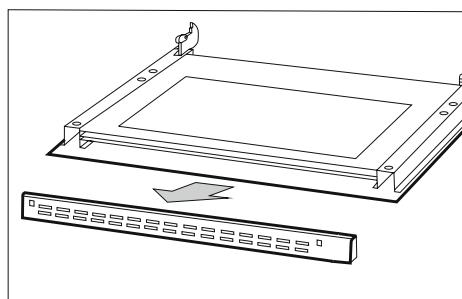

Fig. 7
1. Use a Phillips screwdriver to remove the screws on the side clamps (Fig. 7).